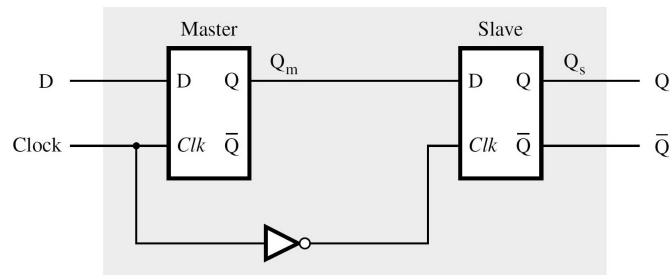

Fig.5: Master-Slave D-FF
1. Realize the **Master-Slave D Flip-Flop in Fig.5** using previously designed **D Latch**.